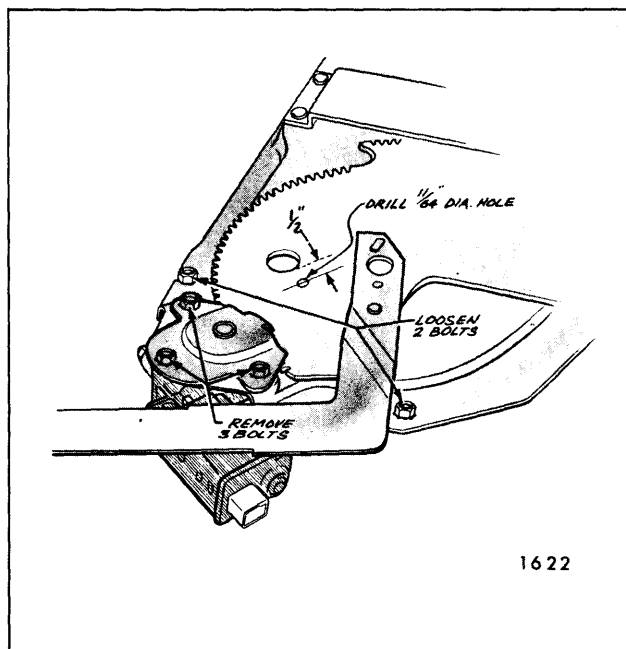

Fig. 9-14—Tail Gate Regulator Motor Assembly
4. Drill a 1/8" hole through regulator sector gear and back plate (Fig. 9-14). Do **NOT** drill hole closer than 1/2" to edge of sector gear or back plate. Install a pan head sheet metal tapping screw (#10-12 x 5/8) in drilled hole to lock sector gears in position.